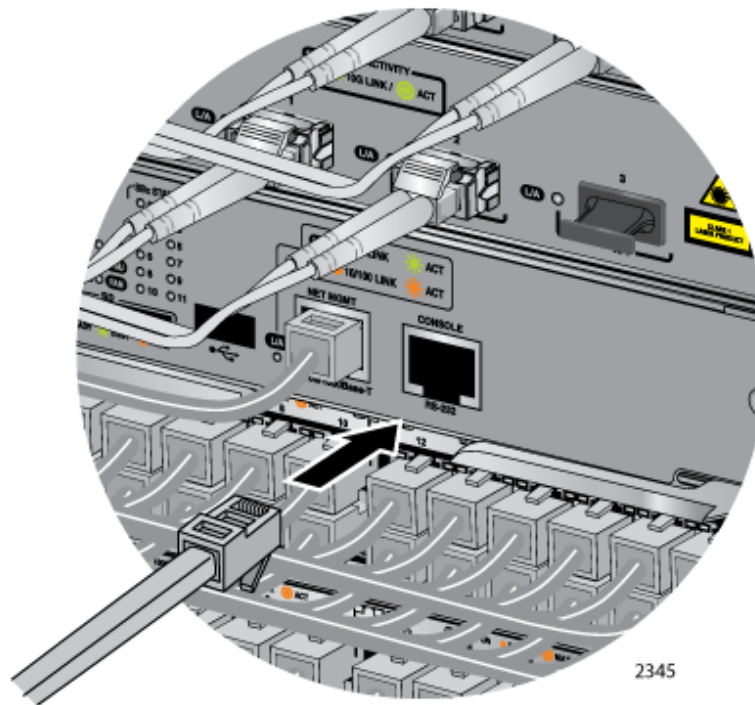

Figure 144. Connecting the Management Cable to the Console RS-232 Port
1. Connect the RJ-45 end of the management card included with the AT-SBx31CFC Controller Fabric Card to the Console RS-232 port on the front panel of the AT-SBx31CFC Card, as shown in Figure 144. If the chassis has two control cards, you must connect the cable to the Console RS-232 port on the active card. To determine which card is the active card, examine the M/S LEDs. The LEDs are green on the active card and amber on the standby card.